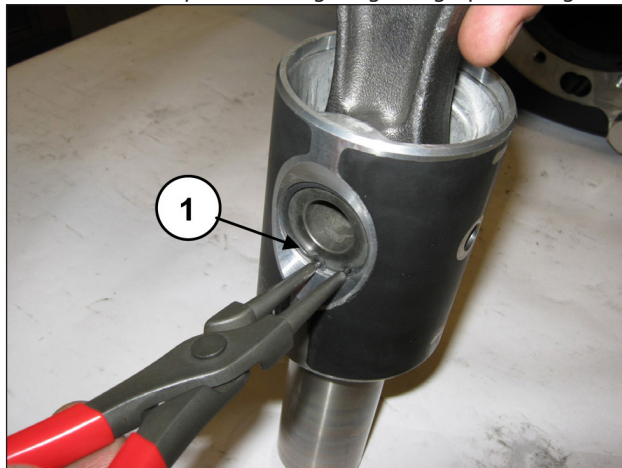

Fig. 37
Remove the two spindle locking Seeger rings (pos. ①, Fig. 37).
Insert the con-rod in the piston guide (pos. ①, Fig. 39) and then insert the spindle (pos. ①, Fig. 38). Apply the two shoulder Seeger rings (pos. ①, Fig. 37).